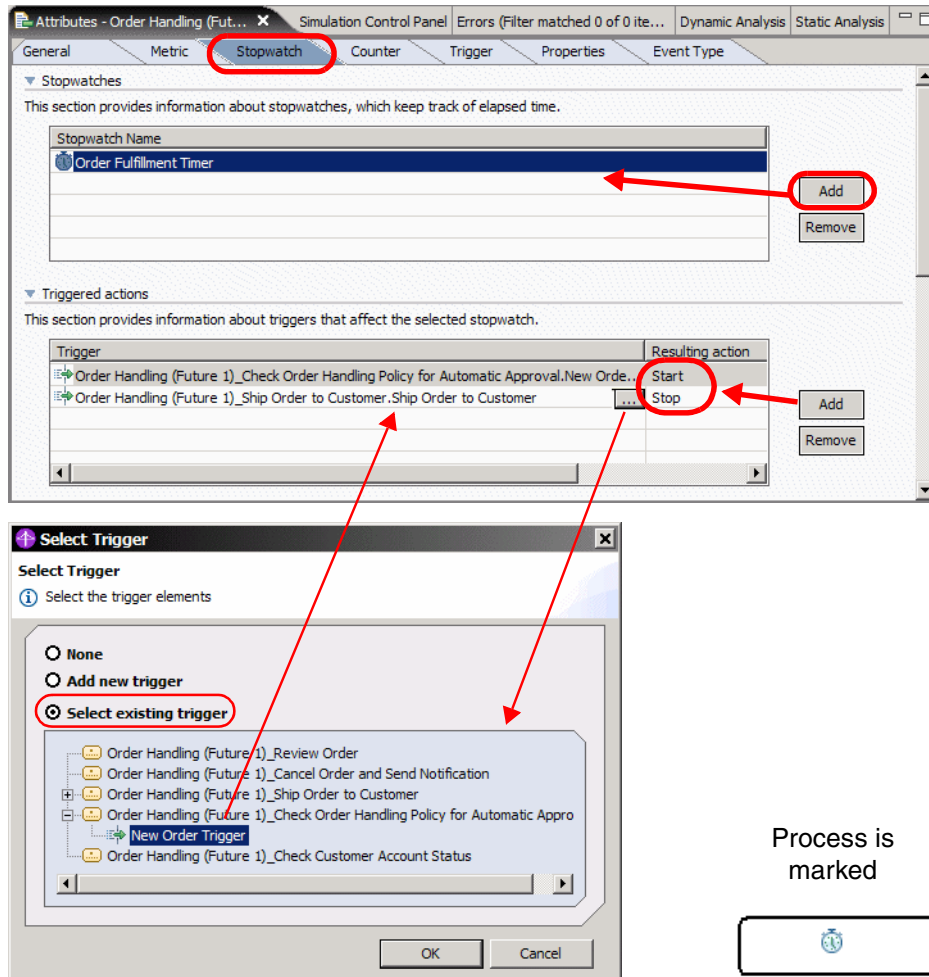

Figure 8-13 Creating a stopwatch
- ▶ Select the *Stopwatch* tab (Figure 8-13).